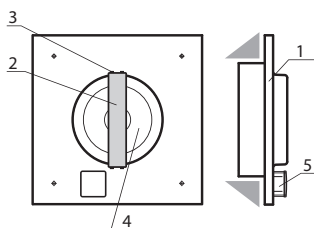

Fig. 6
**The VC-VK fan** (Fig. 6) consists of the casing 1 with the electric motor and impeller 4 fixed on the fixing bracket 2.
VC-VK (Fig. 6)